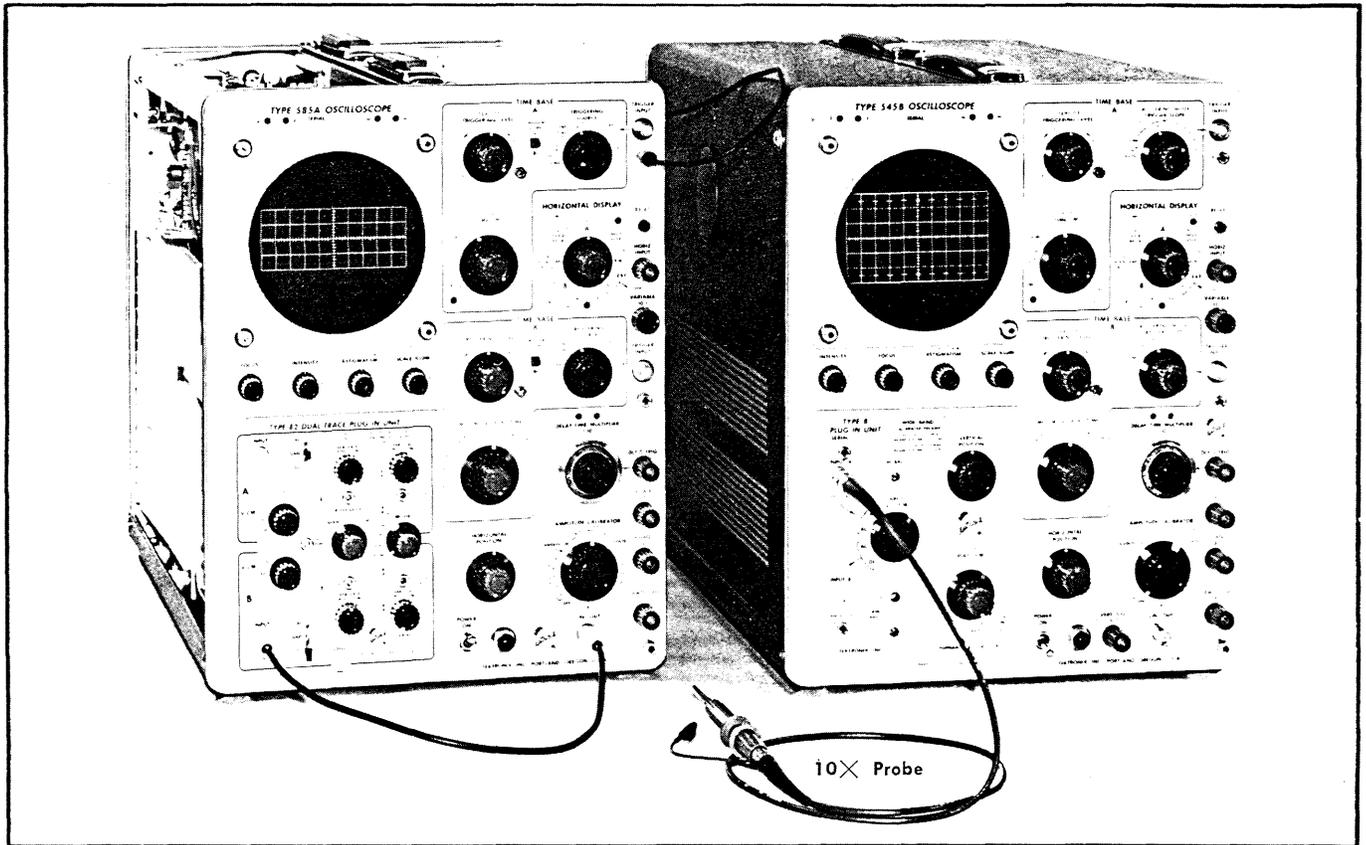

Fig. 6-18. Equipment setup for steps 25 through 27.
- a. Equipment setup is shown in Fig. 6-18.